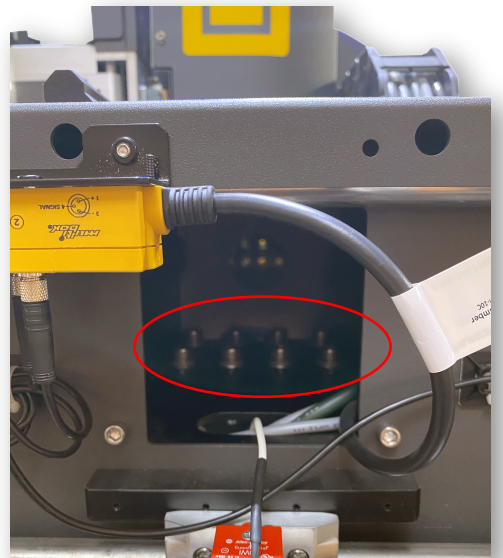

Figure 5
- 3)** Inside the beam are eight (8) socket cap bolts holding the beam to the X-motor carriage. Using the 10mm socket and ratchet, loosen all eight (8) bolts on either side to finger-tight or so the split washer visibly opens. (Figure 5)